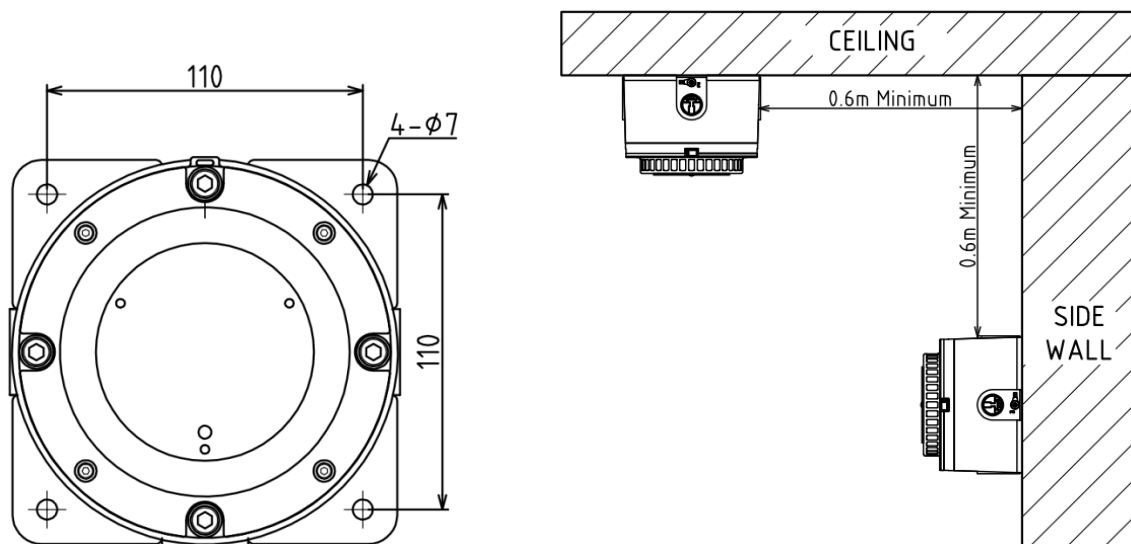

Figure 3 : Mounting
- 1) Fix the FLS-02EC(-H2) to the wall with four M5 or M6 bolts using base 4- ϕ 7 hole (See Figure 3) . bolt length more than 11 (eleven) mm. It must be mounted on a ceiling or wall of sufficient strength to support the weight.
- 2) It is normally mounted on the ceiling no less than 0.6 m (twenty-four inch) from a side wall, and vice versa (See Figure 3).